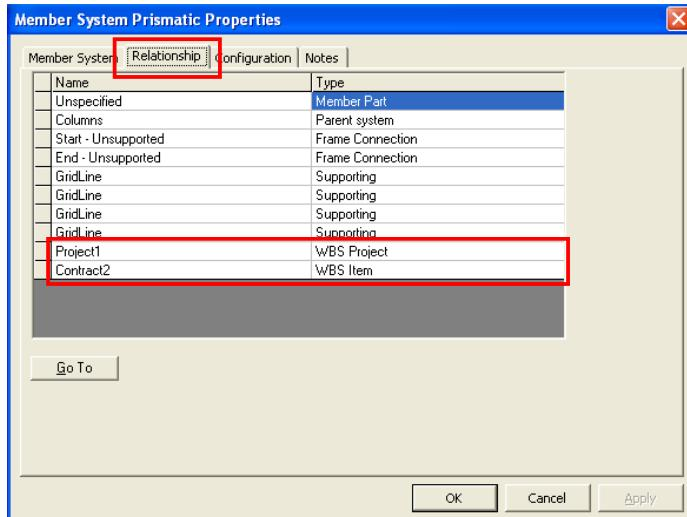

Figure 10: Member System Prismatic Properties Dialog Box
- Later, if you want to verify whether the structural objects have been assigned to the WBS Item, **Civil Contract1**, you can review the properties of the objects in the **Relationship** tab of the **Member System Prismatic Properties** dialog box. (See the highlighted properties in Figure 10.)